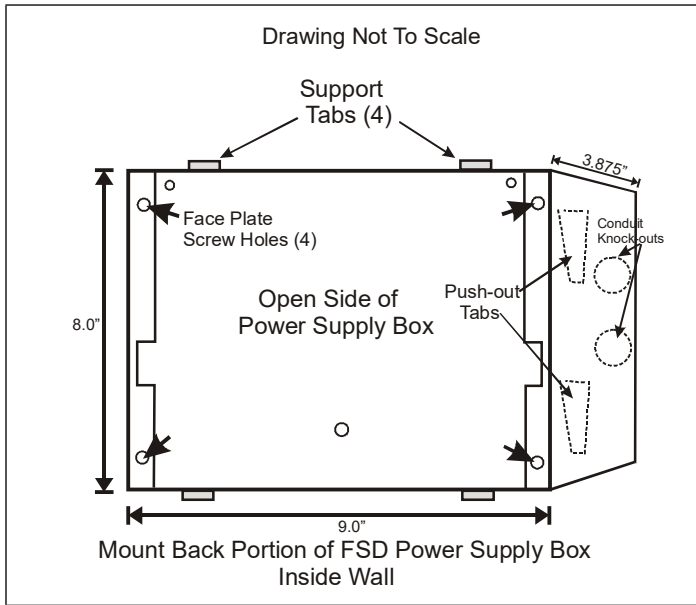

Figure 5 - Mounting the Power Supply Box
- Once this hole is cut, mount the unit as desired (**Figure 5**), and position the enclosure so that the four support tabs are flush against the outside lip of the opening in the wall.